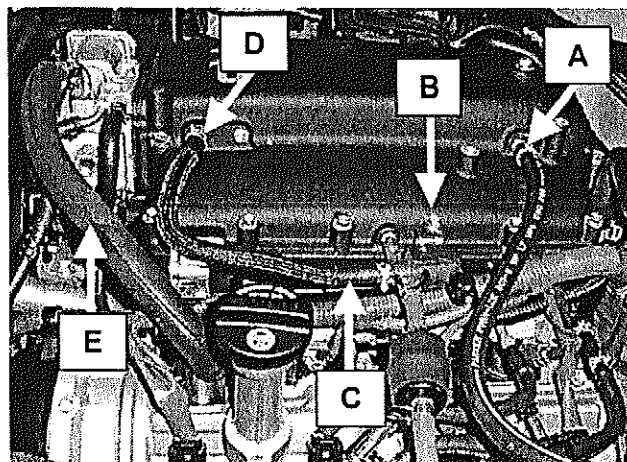

Figure 38
28. Connect the rubber hose from the vacuum brake booster to the 3/8" brass barb in the supercharger plenum cover. (Arrow A, Figure 38).
29. Attach the EVAP VSV assembly. Torque the bolts to 16 N-m (12 ft-lb; Arrows B & C, Figure 38). Then Connect the EVAP hose to the forward end of the supercharger plenum (Arrow D, Figure 38).
30. Install the PCV valve hose (Arrow E, Figure 38).